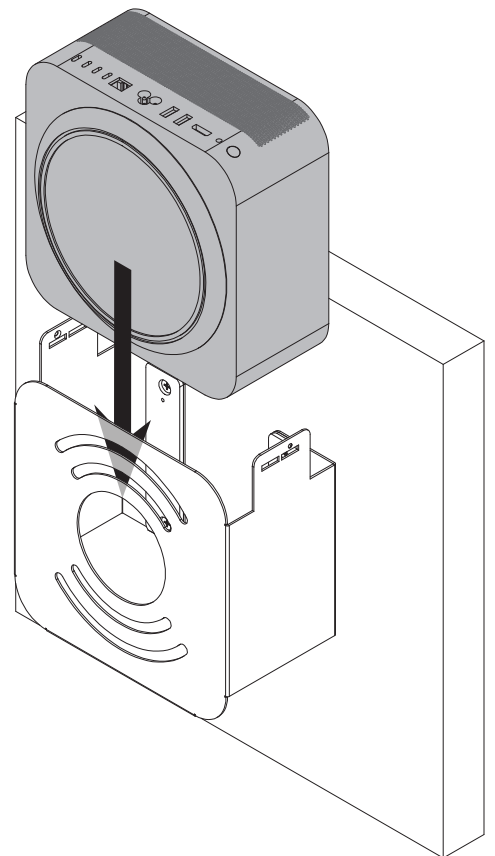

Figure 14
13. Remove your Mac Studio computer from its packaging. Being sure to support the computer, carefully insert it into the bracket with the top of the computer facing the wall; **do not drop the computer into the bracket** (Figure 14).